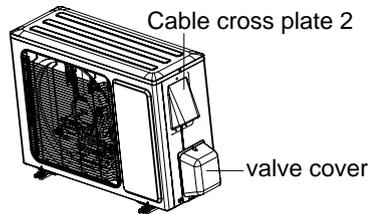

Fig.21
- (1) Remove the screw on the handle or cable cross plate 2, then remove it.(As show in Fig.21)